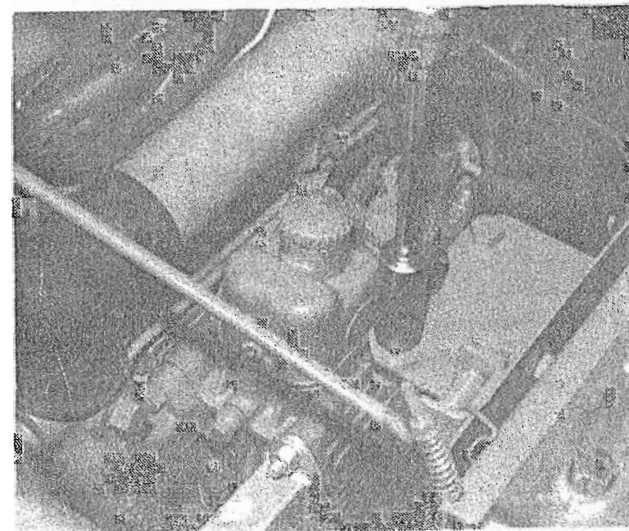
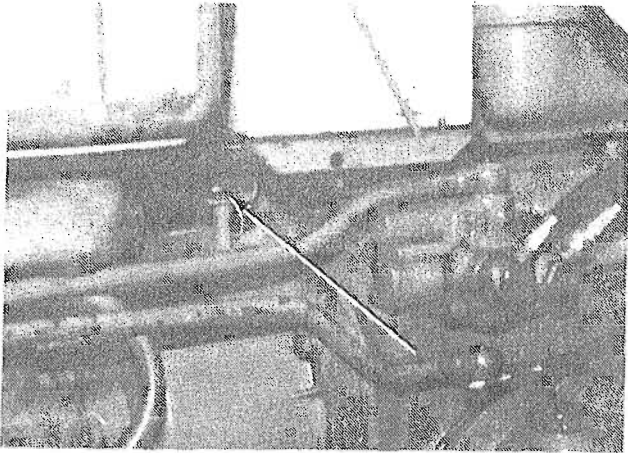

FIG. 4
FIG. 5
(5) The (2) 10 x 16mm. bolts at the top (Fig. 4) and the (2) 8 x 55mm. bolts that secure the bottom of the battery case to the engine/bell housing assembly. (Fig. 5)